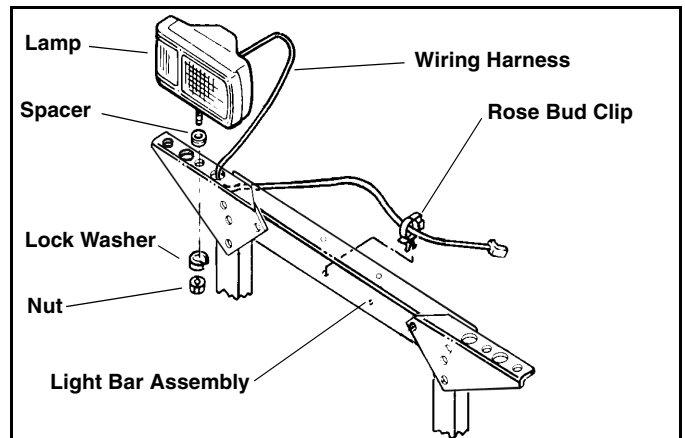

Figure 9
6. Mount Lamps on Upper Channel Assembly. (See Figure 9)
7. Pass Wire Harness attached to Lamps through holes in Upper Channel Assembly. (See Figure 9)
9. Attach Plow section of Wire Harness to Upper Channel Assembly with Rosebud Clips provided. (See Figure 9)